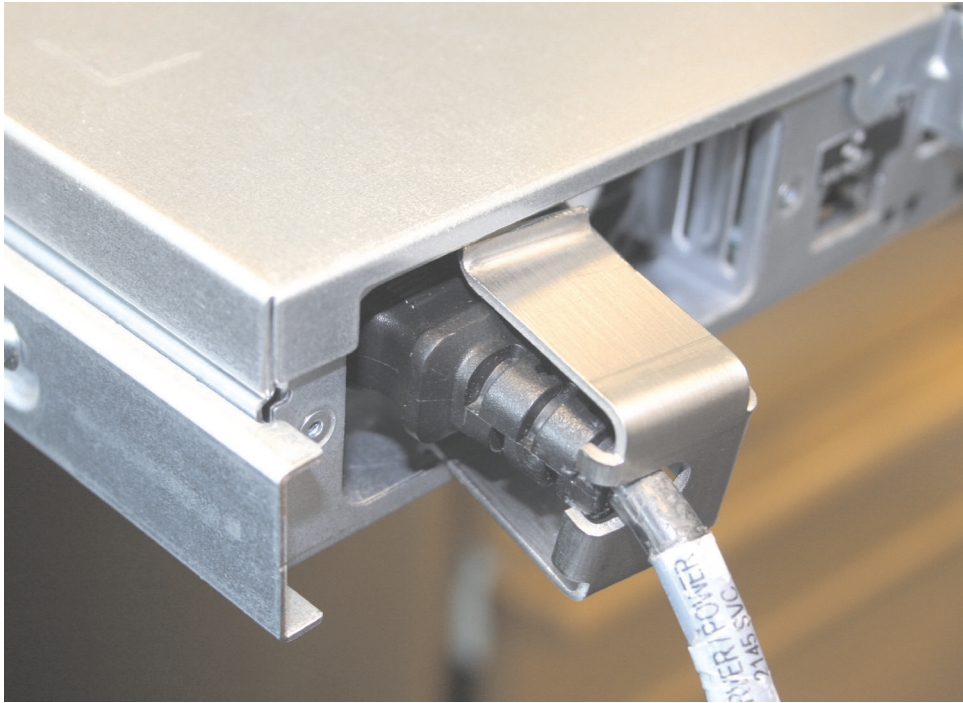

Figure 15. Installing the SAN Volume Controller 2145-8A4 cable retention bracket
5. Place the bottom lip of the retention bracket in the node chassis as shown in Figure 15 on page 30. Turn the bracket at a slight angle, squeeze the top and bottom together, and position the top lip in place behind the chassis back plate.